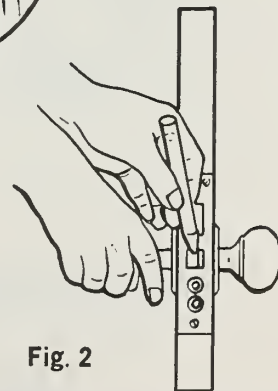

Fig. 2
2. Noisy or squeaking locks should be lubricated with graphite. You can buy this at a hardware store. (Fig. 2)